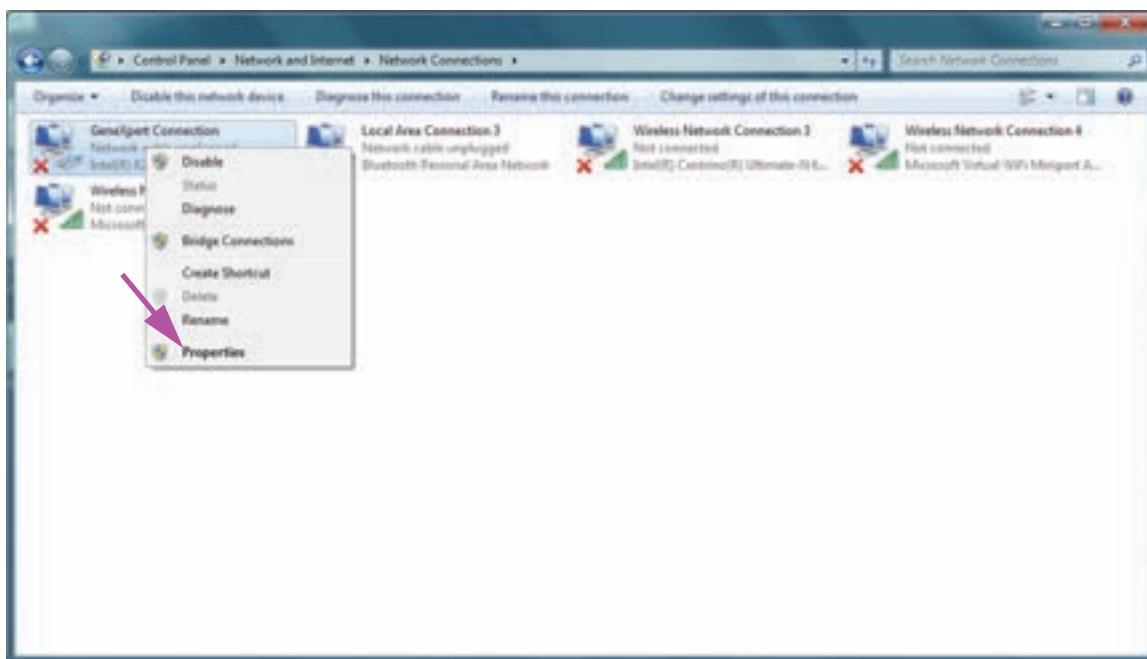

Figure 2-40. Network Connections Screen with Drop-Down Menu
6. Right click the **GeneXpert Connection** entry. A drop-down menu appears. See Figure 2-40.